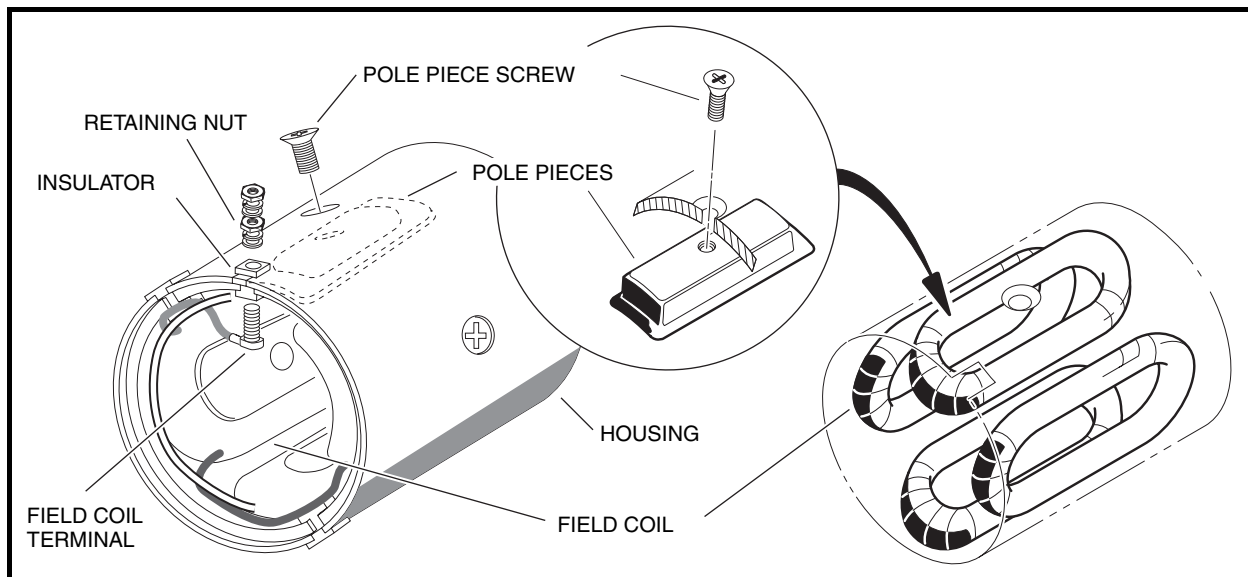

Figure 12-10 Field Coil Assembly
1. Remove the retaining nut from each field coil terminal and slide the insulator out of the slots in the housing. Remove the four pole piece screws from the housing. Remove the four pole pieces from inside the housing. Remove the field coils from the inside of the housing (**Figure 12-10, Page 12-6**). See following **NOTE**.
NOTE: Do not remove the insulators or the field coils unless an electrical test indicates that it is necessary (**Figure 12-10, Page 12-6**). See **Test Procedure 8, Section 11, Page 11-28**.
2. After the insulators are seated in the slots, install the threaded terminals through the wire connectors and then through the insulators. Install a flat washer, lockwasher and nut onto each threaded terminal on the outside of the housing. Tighten nuts to 47.5 in-lb (5.4 N·m) (**Figure 12-10, Page 12-6**). See following **CAUTION**.
3. Install the four pole pieces into the housing. Use the four screws to secure pole pieces to the inside of the housing to retain the field wires. Tighten screws to 9 ft-lb (12.2 N·m) (**Figure 12-10, Page 12-6**).